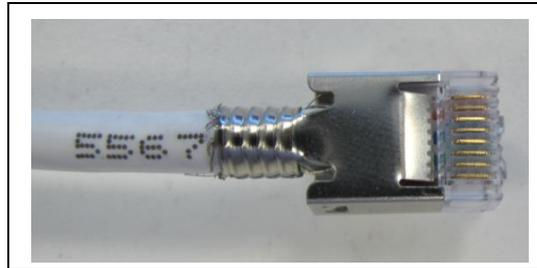

Figure 14. Trim any Braid or Foil
5. Trim away any braid or foil and drain wire left extending beyond the end of the plug shield. See Figure 14.